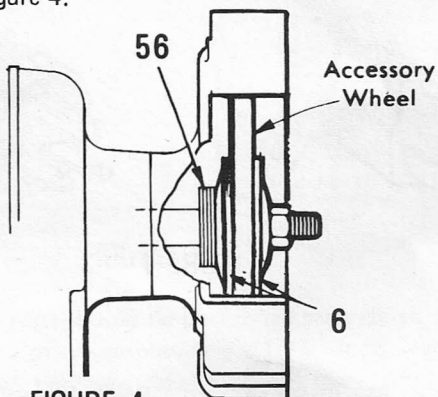

FIGURE 4
- The illustration shows how the washer spacer (56) is assembled to your grinder when accessories are used. See figure 4.